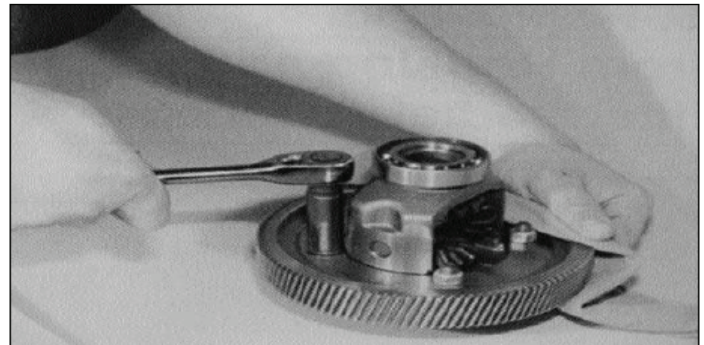

Figure 7-15. Removing Output Gear from Differential
11. Remove four bolts (6) and nuts (7) from the final drive output gear (5). Remove gear from differential case. Use care not to damage gear teeth. See Figure 7-15.